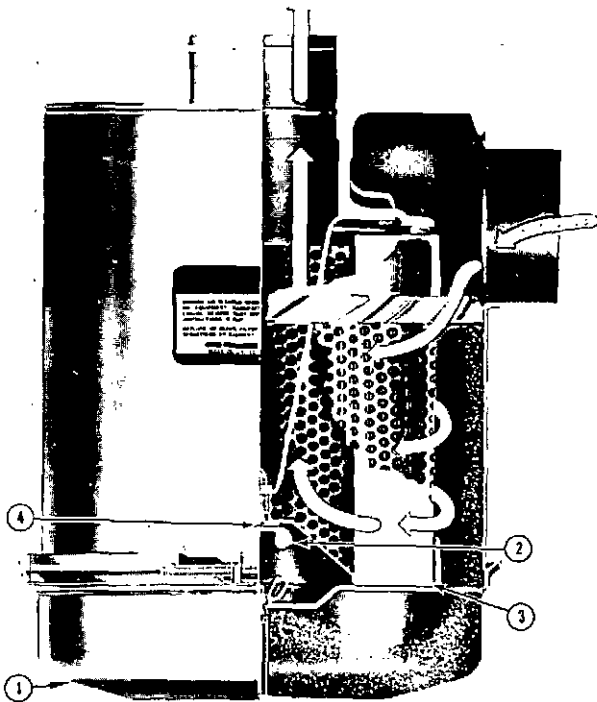
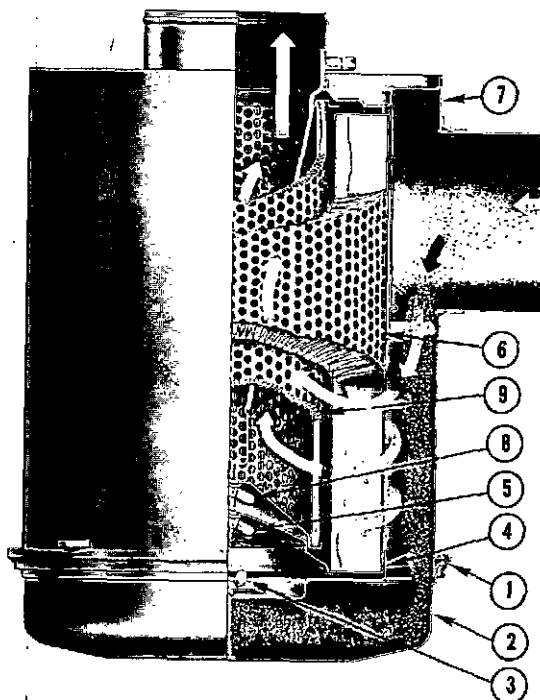

Fig. 5-16, V11005. Air cleaner - single element
Fig. 5-17, N11030. Air cleaner - dual element
Dirty air enters through an opening in the side of the single or dual type, cyclopac cleaner body. On single element type air immediately travels through a ring of vanes around the outside of a primary element and on into the engine. Fig. 5-16. Whereas, on a dual element type air travels through a ring of vanes around the outside of a primary element (6, Fig. 5-16) and then through a safety element (9, Fig. 5-16) and on into the engine.
1. Loosen wing bolt, remove band securing dust pan (1, Fig. 5-16), (2, Fig. 5-17).
2. Loosen wing nut (3, Fig. 5-17), remove dust shield (3, Fig. 5-16), (4, Fig. 5-17) from dust pan (1, Fig. 5-16), (2, Fig. 5-17), clean dust pan and shield.
3. Remove wing nut (2, Fig. 5-16), (5, Fig. 5-17) securing air cleaner primary element (6, Fig. 5-17) in air cleaner housing, inspect rubber sealing washer on wing nut (4, Fig. 5-16), (5, Fig. 5-17).
8. Be sure gasket washer (4, Fig. 5-16), (5, Fig. 5-17) is in place under wing nut before tightening.
9. Reassemble dust shield (3, Fig. 5-16), (4, Fig. 5-17) and dust pan (1, Fig. 5-16), (2, Fig. 5-17) position to air cleaner housing and secure with band (1, Fig. 5-17).
- a. Check air restriction indicator, if air restriction is excessive disassemble air cleaner, remove wing nut (8, Fig. 5-17), replace safety element (9, Fig. 5-17).